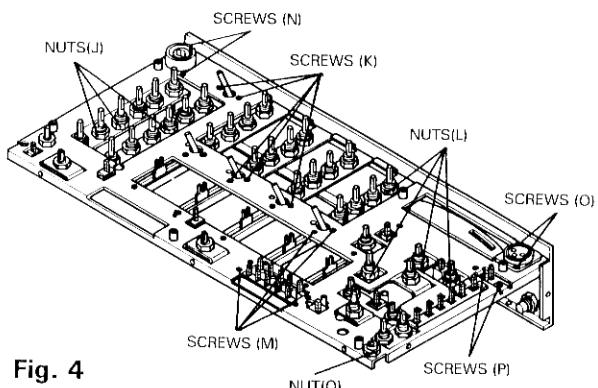

Fig. 4
- (a) Removal of main P.C.B. (Fig.4)
- (b) Removal of Sampling Control P.C.B.. (Fig.4)
- (c) Removal of DJ MIC P.C.B (Fig.4)
- (d) Removal of Light P.C.B (Fig.4)
- (e) Removal of Power Switch P.C.B (Fig.4)
- (f) Removal of Phone Jack P.C.B (Fig.4)